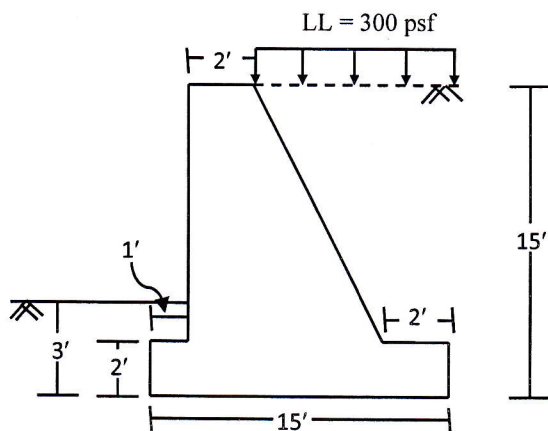

**Fig: 5**
6. The loads (including self-weight) and arrangement of columns of size 12"x12" of the combined footing are shown in **Fig: 5**. Use WSD to